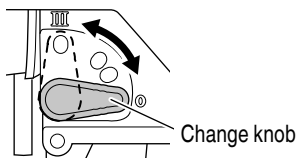

Fig. 10
- (1) This Jig Saw employs orbital operation which moves the blade back and forth, as well as up and down. Set the change knob shown in Fig. 10 to "0" to eliminate the orbital operation (the blade moves only up and down). The orbital operation can be selected in 4 steps from "0" to "III".